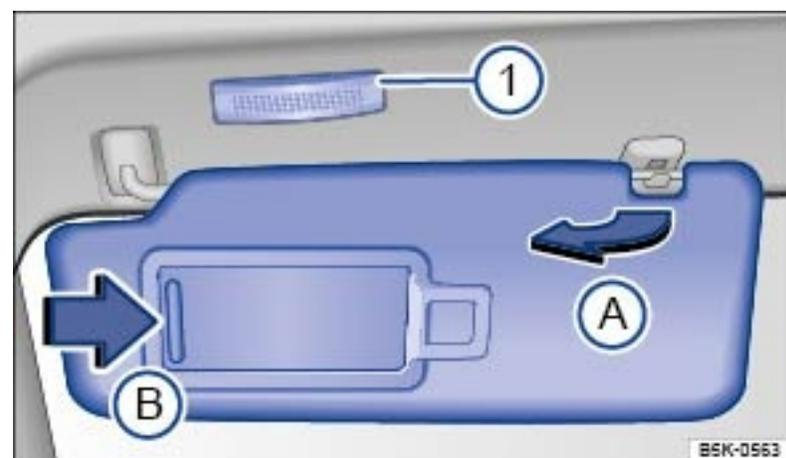

Fig. 86 In the headliner: Sun visor.
- ▶ Lift it out of the retaining clip → Fig. 86  and swivel it over toward the door.
A vanity mirror is behind a cover in the sun visor. Your vehicle may also be equipped with a light → Fig. 86  that comes on when you slide the cover  open.